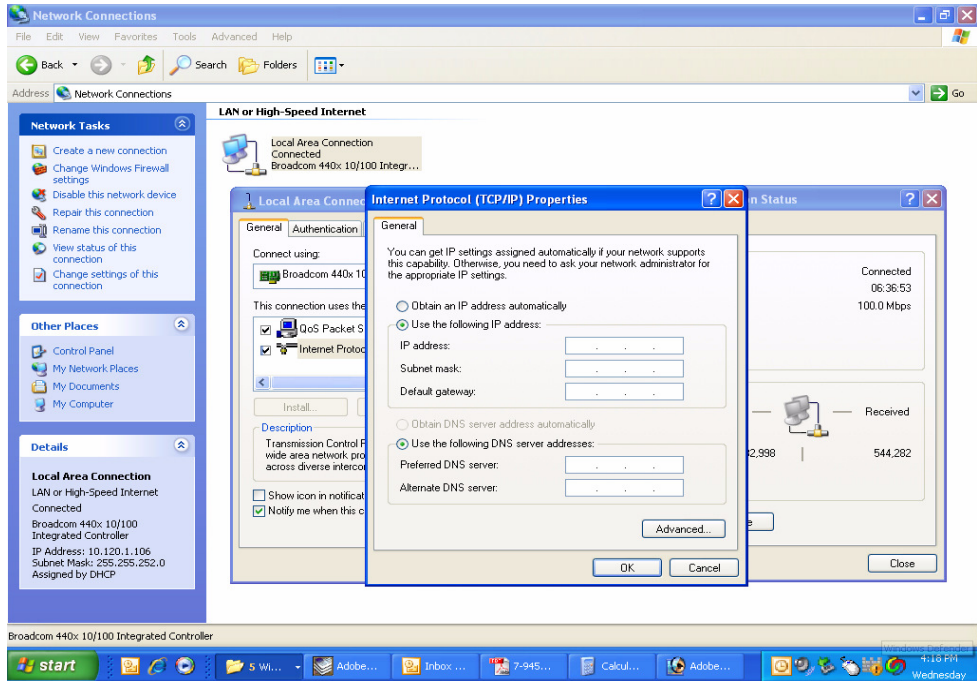

Figure B6: Select “Use the Following IP Address”.
- 7) Select the "Use the following IP address" bubble. Make sure the circle is filled-in. Refer to **Figure B6**.